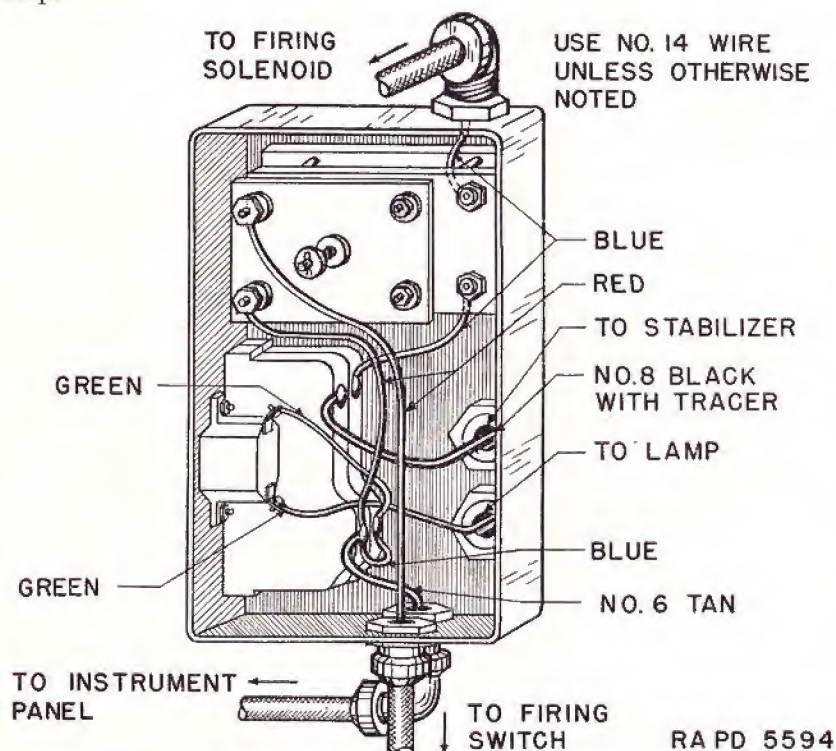

FIGURE 67.—75-mm gun switch and relay box.
112. 75-mm gun firing mechanism (par. 35a (7)).—The wiring diagram for the electric firing mechanism is shown in figure 67. To fire the gun, depress the firing button located at the center of the traversing handwheel (fig. 14). Depressing the button actuates a switch which sends an electric current through a solenoid. The solenoid plunger pushes against a shaft that operates the firing plunger lever. The switch box (fig. 67), which contains a relay and circuit breaker, is mounted on the left side of the gun. The fuse for the 75-mm gun circuit is in the main fuse box.